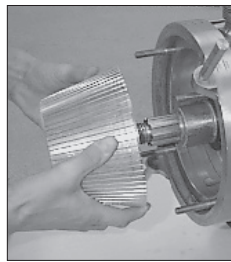

Figure 11
7. Slide the rotor off the shaft, making sure to handle it with care to avoid damage to the rotor or to the seal seat, which is contained in the rotor. (See Figure 11.)